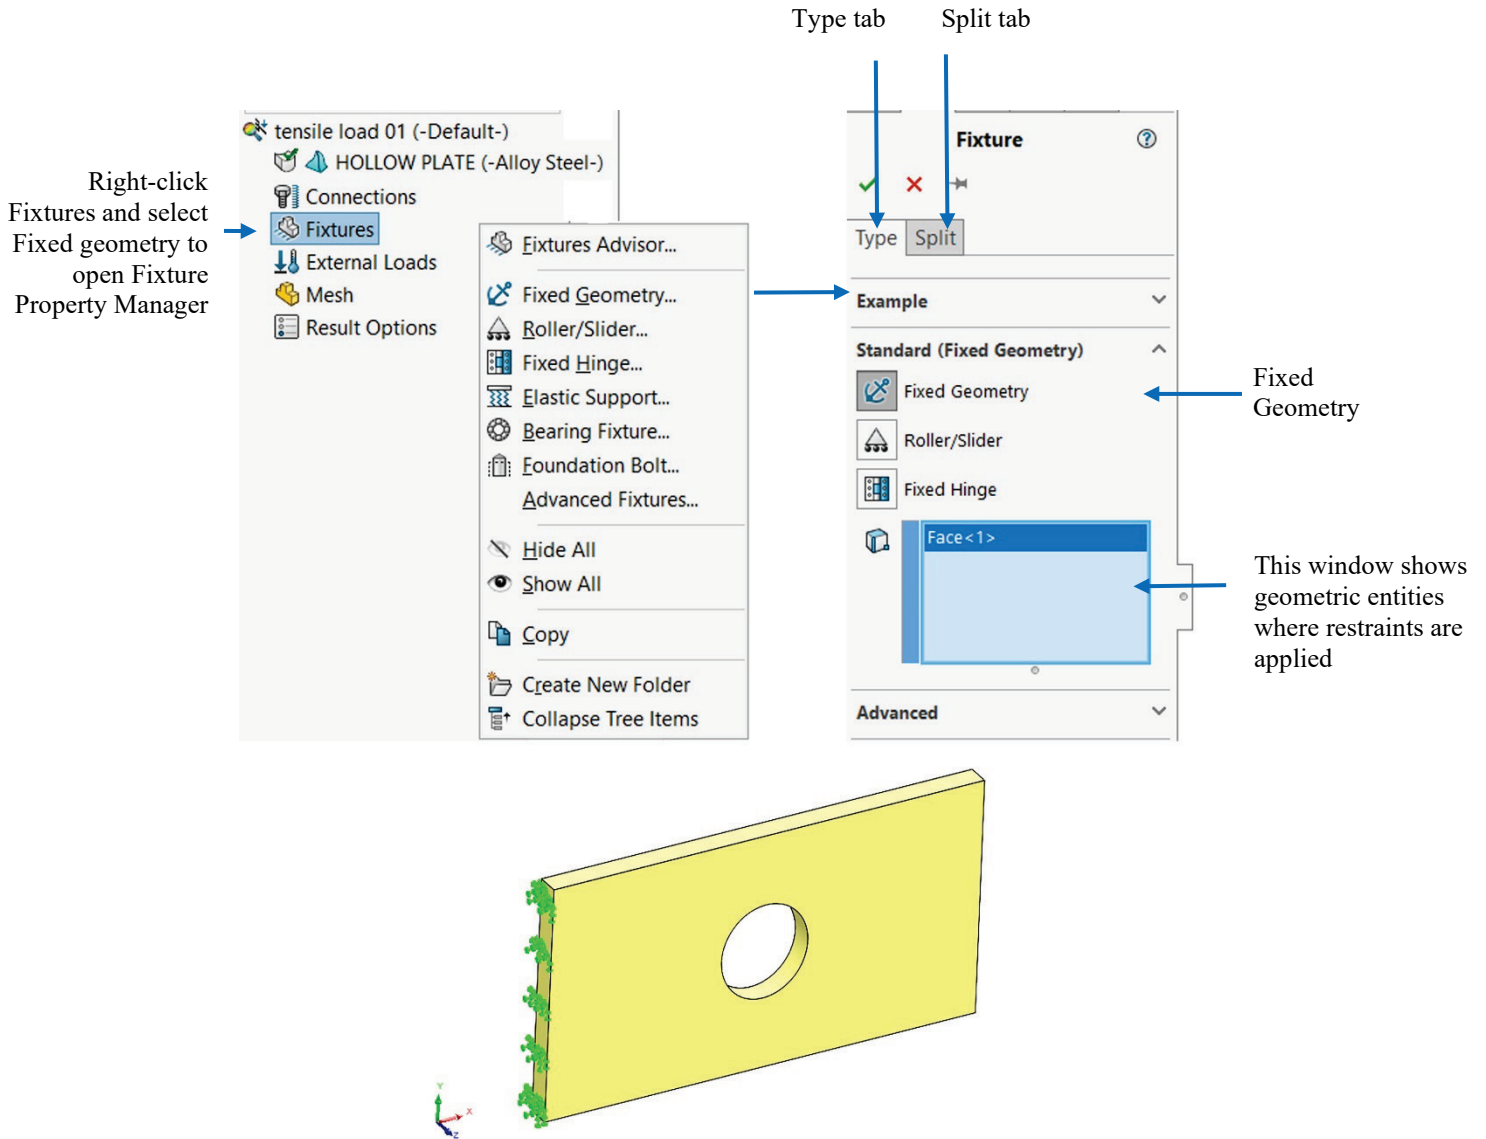

Figure 2-10: Pop-up menu for the Fixtures folder and Fixture definition window (Fixture Property Manager).
Having assigned the material, we now move to defining the restraints. To display the pop-up menu that lists the options available for defining restraints, right-click the *Fixtures* folder in the *tensile load 01* study (Figure 2-10).
The existence of restraints is indicated by symbols shown in Figure 2-10. In the **Symbol** Settings of the Fixture window, the size of the symbol can be changed. Notice that symbols shown in Figure 2-10 are distributed over the highlighted face meaning the entire face has been restrained. Each symbol consists of three orthogonal arrows symbolizing directions where translations have been restrained. Each arrow has a disk symbolizing that rotations have also been restrained. The symbol implies that all six degrees of freedom (three translations and three rotations) have been restrained. However, the element type we will use to mesh this model (second order solid tetrahedral element) has only translational degrees of freedom. Rotational degrees of freedom can't be restrained because they don't exist in this type of element. Therefore, disks symbolizing restrained rotations are irrelevant in our model. Please see the following table for more explanations.
- Right-click *Fixtures* folder and select **Hide All** or **Show All** in the pop-up menu shown in Figure 2-10